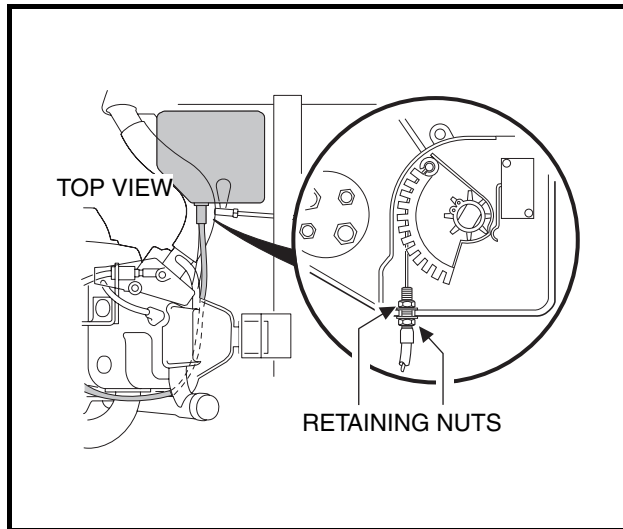

Figure 16-13 Throttle Cable
- 4.5. Remove the cover from the electrical component box. Then loosen the hardware securing the accelerator cable to the box. Disconnect the cable from the actuator cam and remove it from the box **(Figure 16-13, Page 16-9)**.